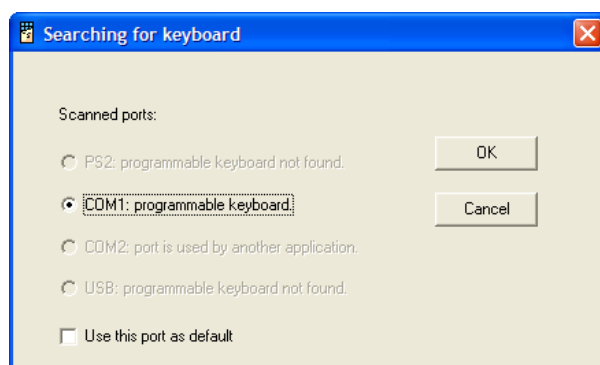

Figure 3-3
3. Press the appropriate keys onto the keyboard in such a way that the most slanted edge is always at the front. Examples of keyboard layouts are shown in Figure 3-1 and Figure 3-3.
7. Click **Yes**. After some time you will see a screen as in Figure 3-3.